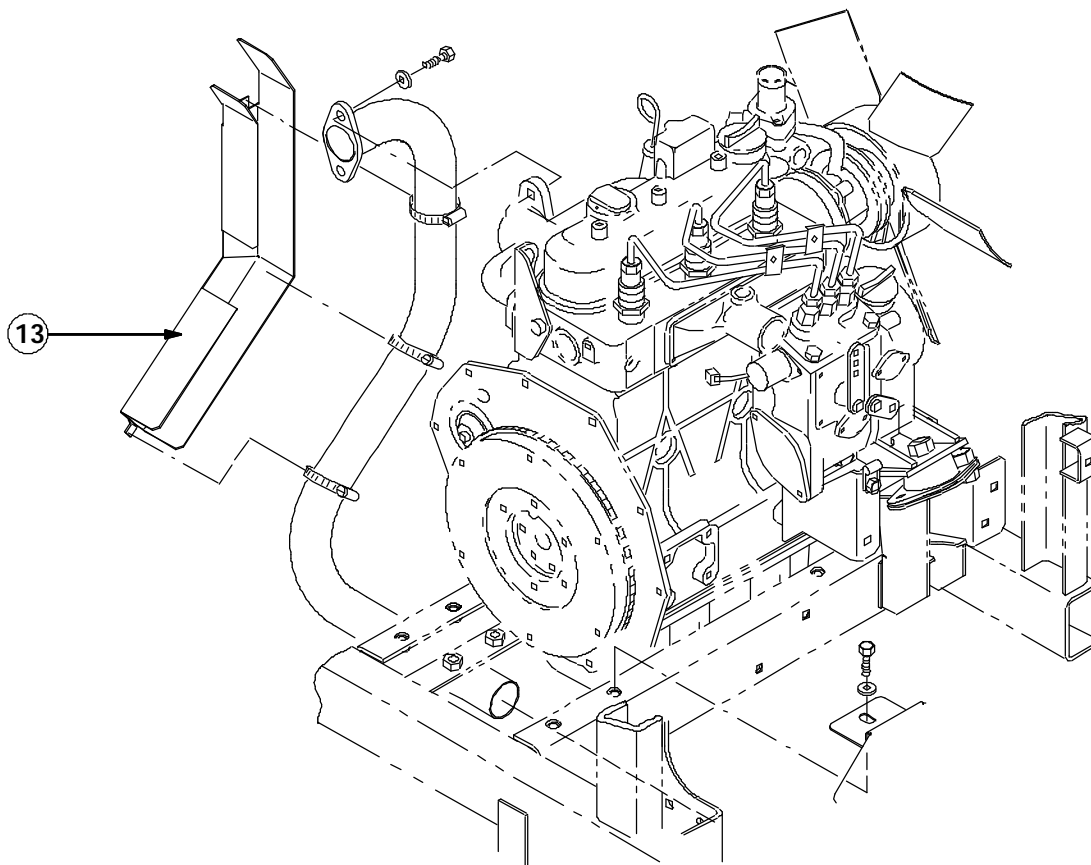

FIG. 3 EXHAUST PIPE HEAT SHIELD INSTALLATION
25. Raise seat weldment covering the engine compartment, and replace old exhaust pipe heat shield with new shield (13). Lower seat weldment. (Refer to FIG. 3)